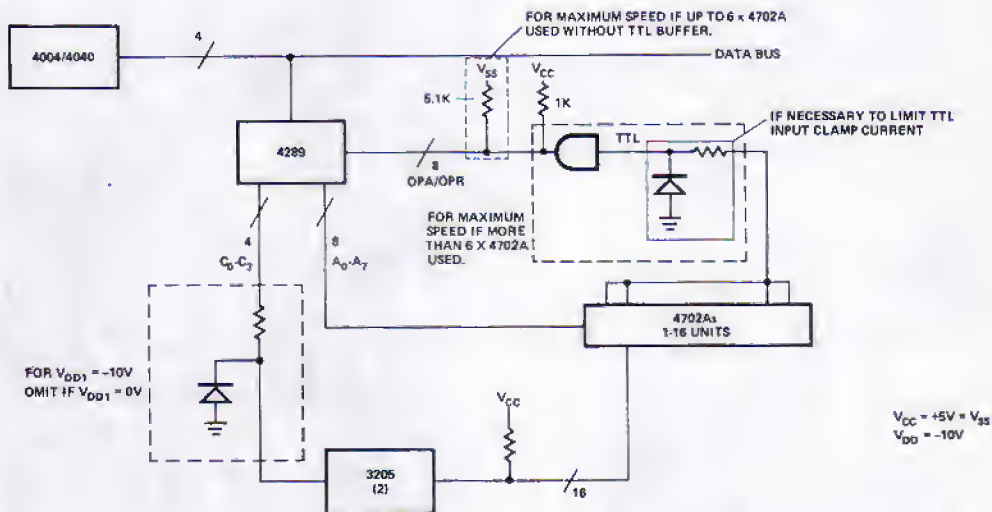

Figure 4. 4289 and 4702A Block Diagram.
1. When utilizing the 4289 with more than six 4702As, a TTL buffer as shown in Figure 4 should be inserted in series with the OPR, OPA lines to achieve maximum clock rate. The buffer may be inverting or non-inverting.